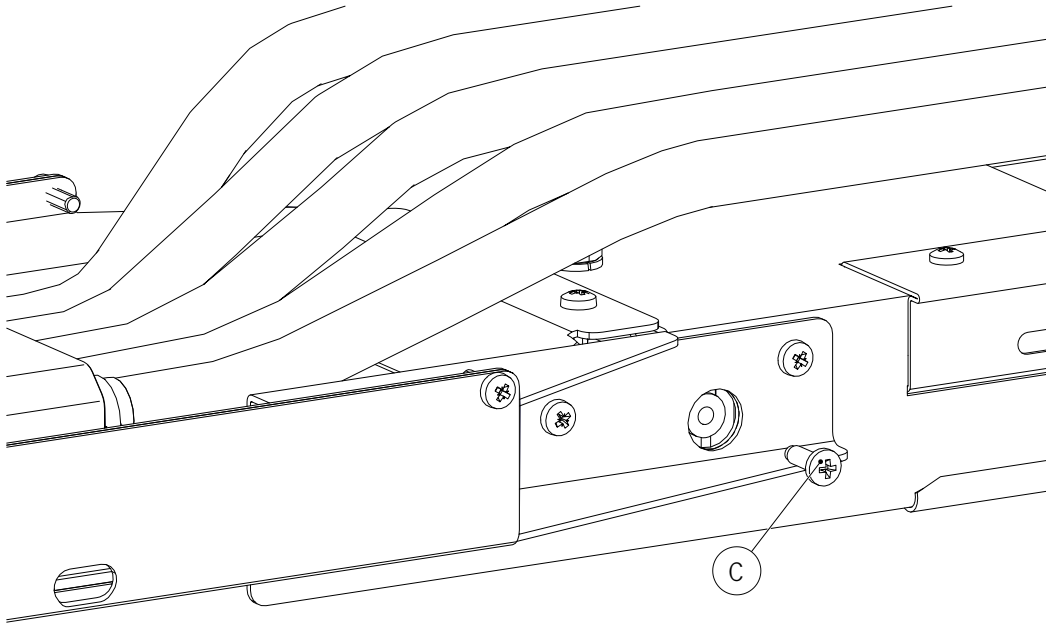

Fig. 79: Tighten fillister head screw (C)
- Using a crosshead screwdriver, tighten the fillister head screw (C) so that the screw head rests on the transverse bore of the anchor point (see Fig. 79).